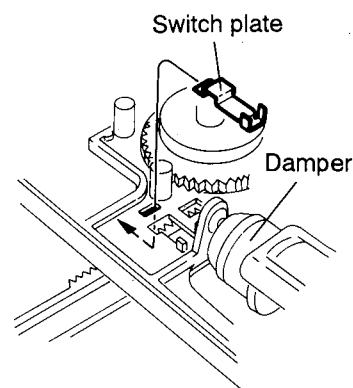

Fig. 4-11
- Note 1.** Since the switch plate under the switch P.C. board may sometimes be removed during the services, be sure to check the switch plate at the time of reassembly (See Fig. 4-11).